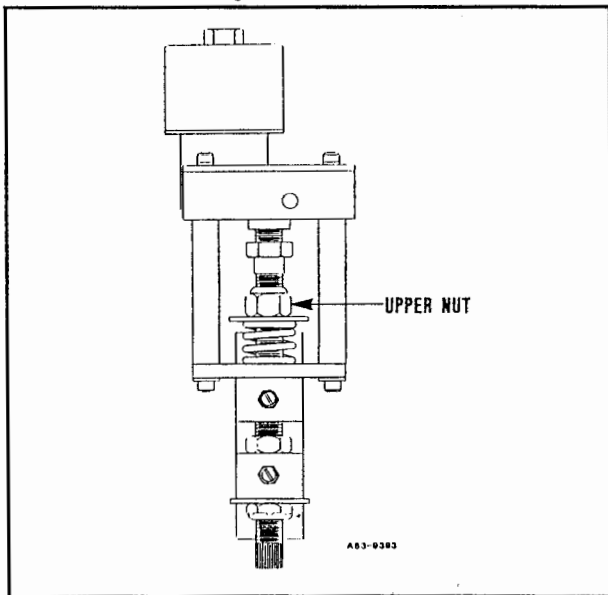

Figure 9.2 C
6. Turn upper nut clockwise until it just starts to compress brake spring. See Figure 9.2 C.